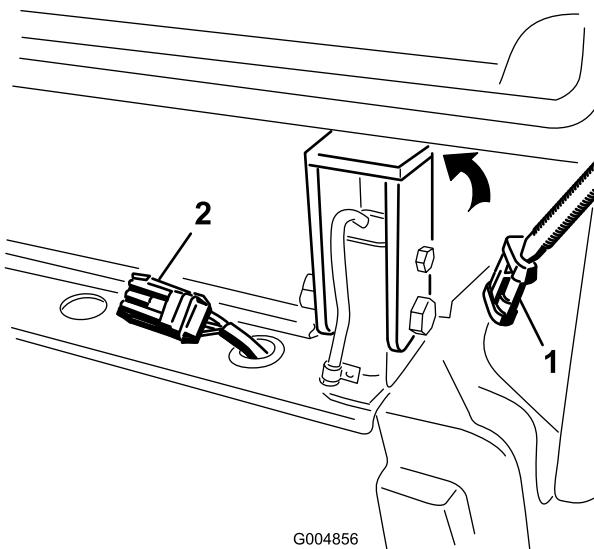

Figure 129
45. Remove the cap and plug the cab wire harness connector into the harness on the rear frame mount (Figure 129).